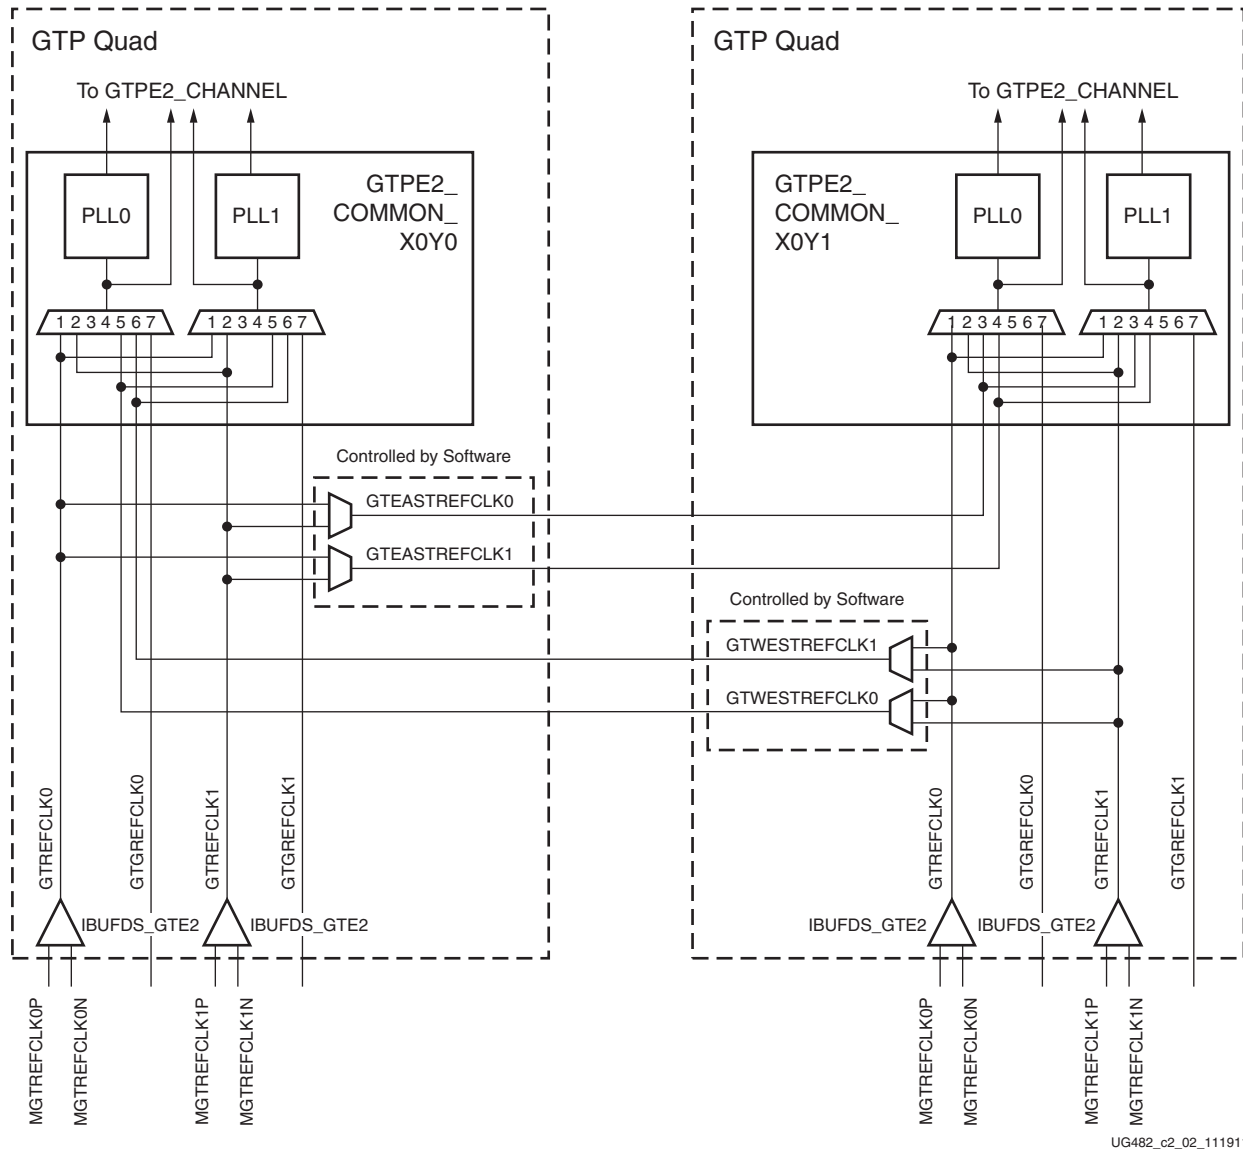
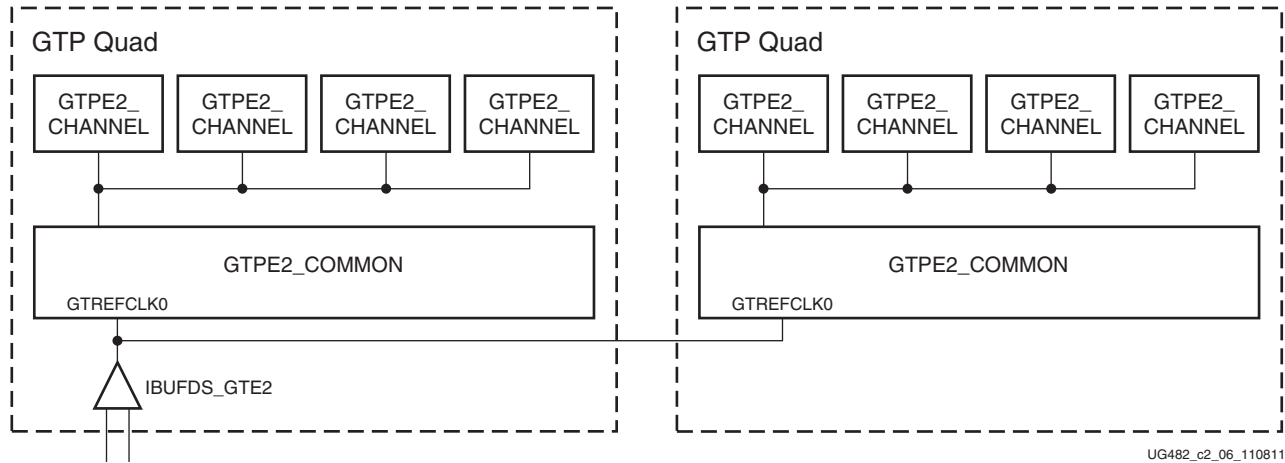

Figure 2-2: Conceptual View of GTP Transceiver Reference Clocking
Figure 2-6: Two GTP Quads with a Single Shared Reference Clock
Figure 2-2 shows the reference clock architecture with the GTPE2_COMMON primitive, two dedicated reference clock pin pairs, and dedicated east or west reference clock routing. Each GTPE2_COMMON in a Quad has four clock inputs available:
Figure 2-6 shows a single reference clock connected to two GTP Quads. The user connects the IBUFDS_GTE2 output (O) to the GTREFCLK0 input port of both GTPE2_COMMON primitive instances. Such a scenario is only possible in the larger Artix-7 devices that contain east and west GTP Quads adjacent to each other.
When required, as is the case for the design in Figure 2-6, the Xilinx implementation tools make the necessary adjustments to the east/west routing shown in Figure 2-2, page 26, as well as any necessary pin swapping to the GTPE2_COMMON clock inputs to route the reference clocks between two Quads.